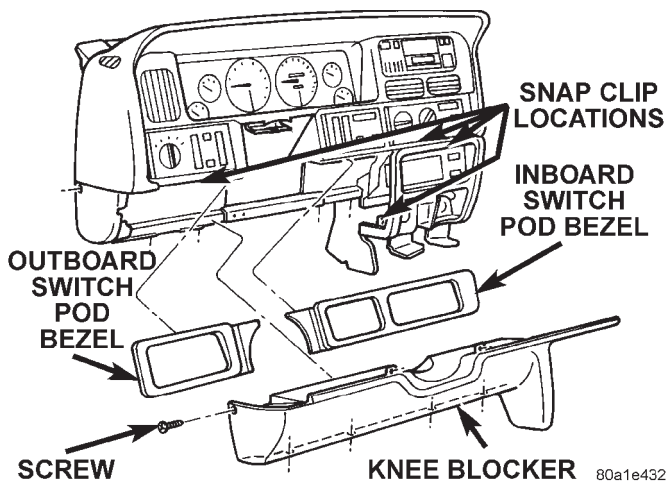
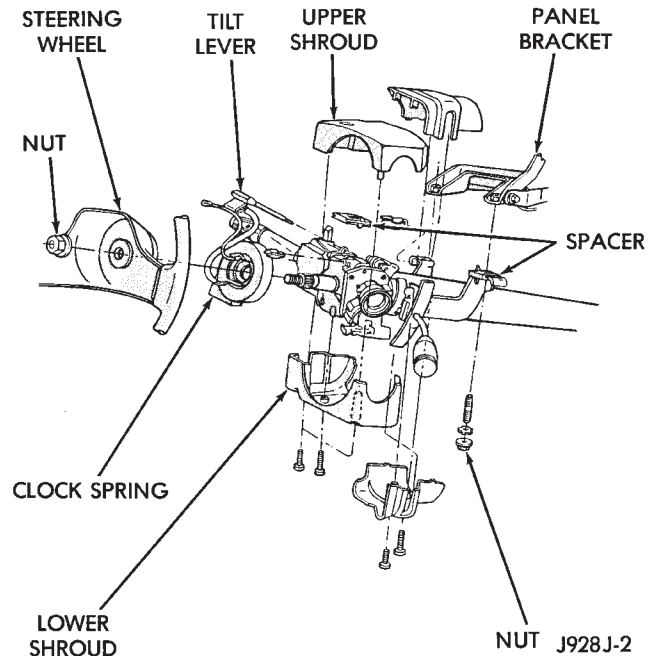

Fig. 12 Knee Blocker Remove/Install
Fig. 13 Steering Column Shrouds Remove/Install-Typical
- (1) Disconnect and isolate the battery negative cable.
- (2) If the vehicle is so equipped, remove the tilt steering column lever.
- (3) Using a trim stick or another suitable wide flat-bladed tool, pry gently around the edges of the instrument panel switch pod bezels and remove both bezels.
- (4) Remove one screw on each side of the steering column that secures the upper edge of the knee blocker/steering column cover to the instrument panel (Fig. 12).
- (5) Remove the one screw that secures the outboard end of the knee blocker to the instrument panel.
- (6) Remove the four screws that secure the lower edge of the knee blocker to the lower instrument panel reinforcement.
- (7) Using a trim stick or another suitable wide flat-bladed tool, gently pry the edges of the knee blocker away from the instrument panel at the snap clip retainer locations (Fig. 12).
- (8) Remove the knee blocker/steering column cover from the vehicle.
- (9) Remove both the upper and lower shrouds from the steering column (Fig. 13).